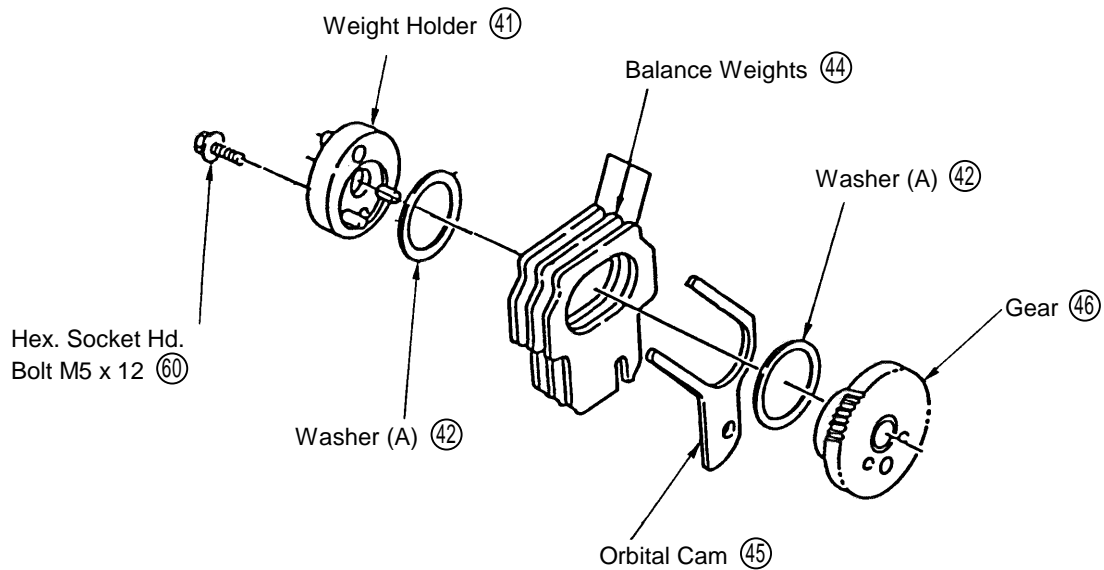

Fig. 13
- (7) Disassembly of the Weight Holder (41) and the Gear (46):
Remove the M5 x 12 Hex. Socket Hd. Bolt (60) from the Weight Holder (41). Washer (A) (42), the three Balance Weights (44), the Orbital Cam (45), and Washer (A) (42) can then be removed in that order. (See Fig. 13)